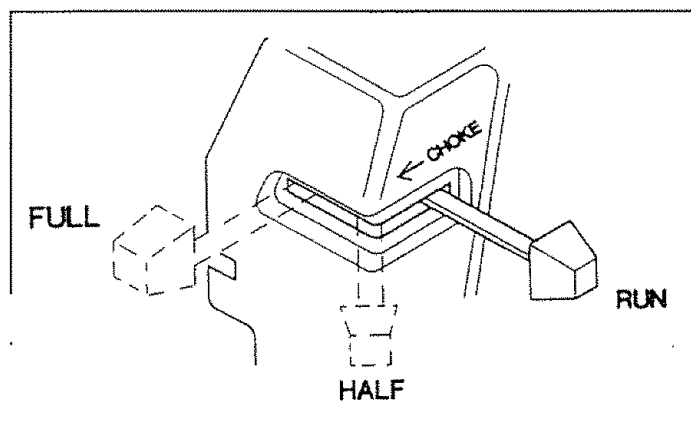

FIG. 20
- Close the choke to FULL position (Fig. 20 on Page 13) by sliding it to far position in direction indicated by arrow on air cleaner housing.